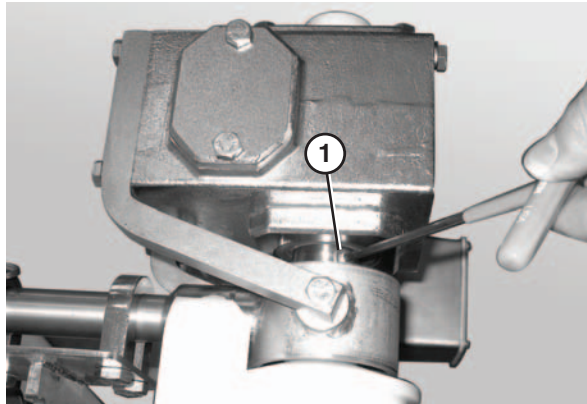

Figure 51
- Loosen the button head screws (**Figure 51, item 1**) that connect the gearmotor to the drive spindle.